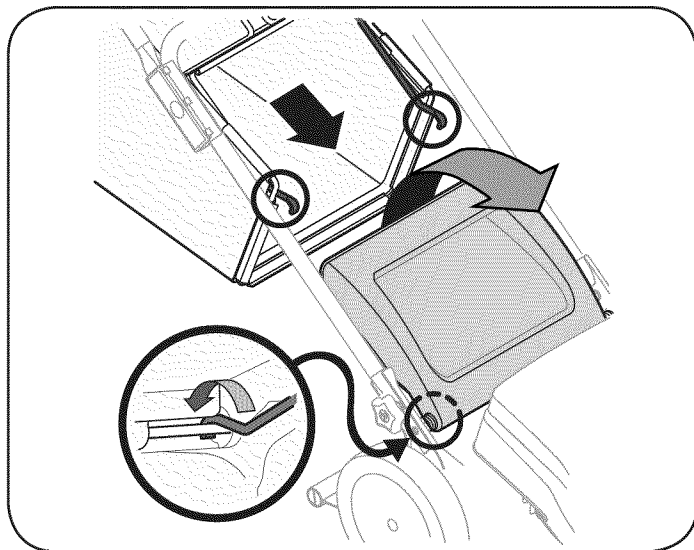

Figure 4
- Place grass catcher on the pivot rod. Let go of discharge door so that it rests on the grass catcher. See Figure 4.